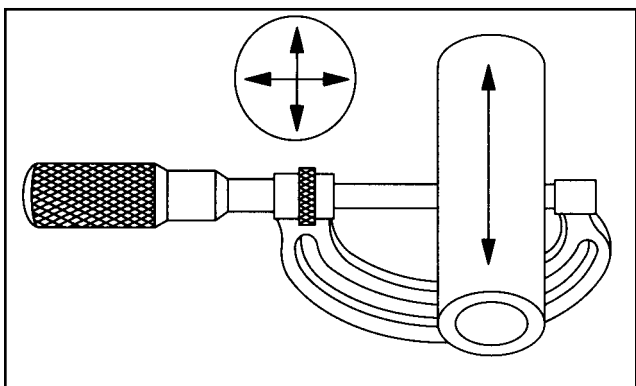

Figure 12-6. Check Piston Pin
1. Check piston pin, Figure 12-6.